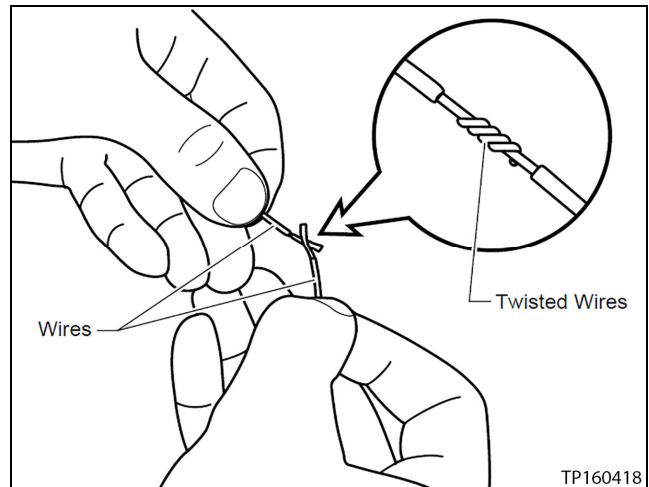

Figure 32
26. Twist together the two brown wires and then the two yellow wires (see Figures 32 and 33).